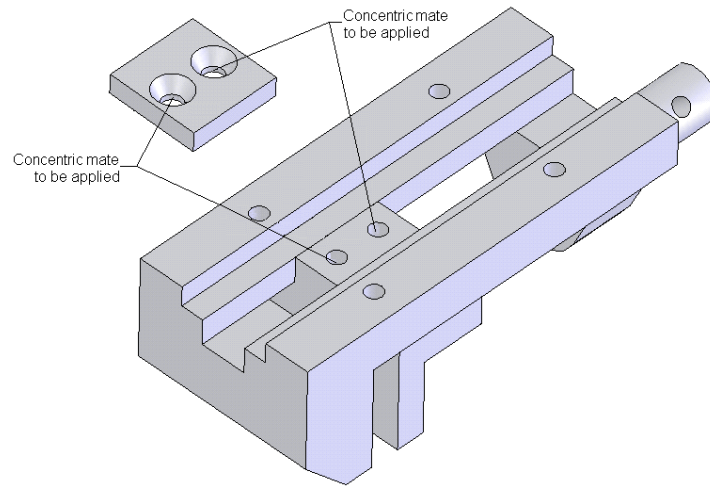

Figure 10-70 Faces to be selected to apply mate
5. Apply the **Concentric** mate between the two cylindrical faces of the clamping plate and the two holes of the vice jaw, refer to Figure 10-70. You may have to move the Clamping Plate after applying the first mate.